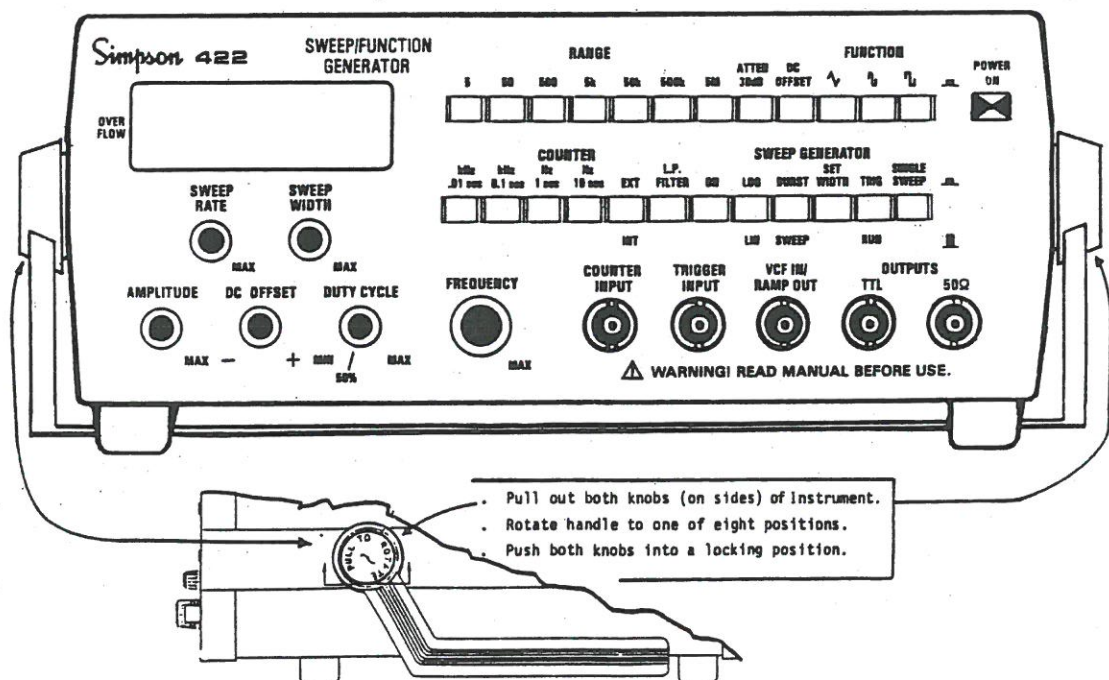

Figure 2-1. Viewing Adjustments
2.6.1 The Instrument may be set and operated horizontally on its four rubber feet or the Instrument can be set at an inclined angle by positioning the 8-position carrying handle under the unit. To set the Instrument at a desirable viewing angle, use the following procedures. (See Figure 2-1.)